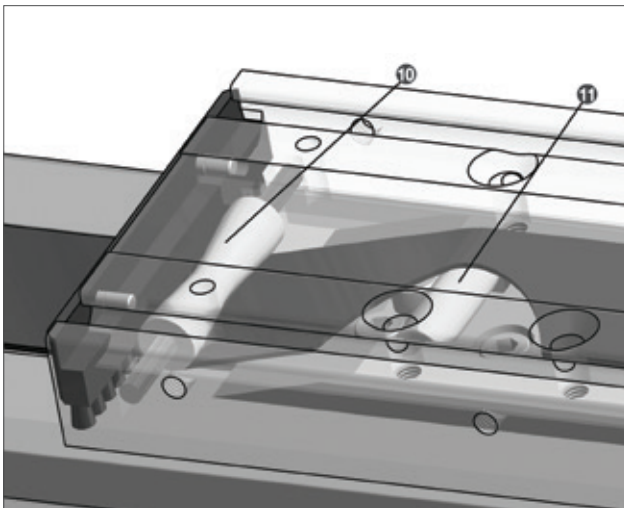

Figure 4.16 — Cover strip deflection
4. Make sure that the guiding roller **10** in the table unit and the pressure roller **11** in the slider plate can be easily moved and are free from wear, if applicable and clean or replace them (Figure 4.16). In the case of wear-related replacement of the cover strip, we always recommend replacing the guiding and pressure rollers as well (wear parts sets see Chapter 3.16).